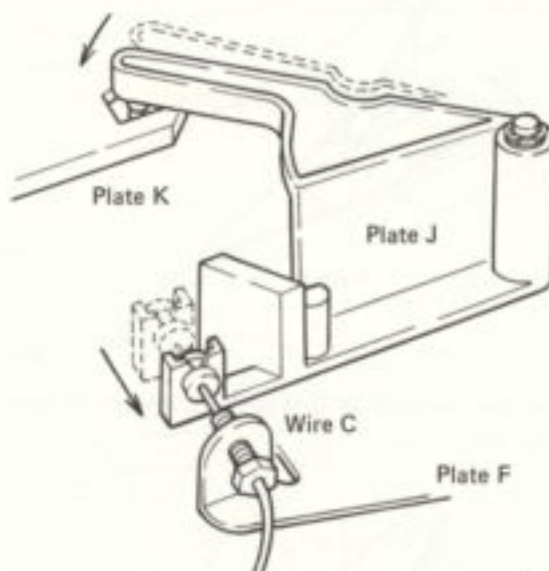

Fig. 27
1. When REPEAT button is pressed, plate J position is shifted by wire C (Fig. 27).